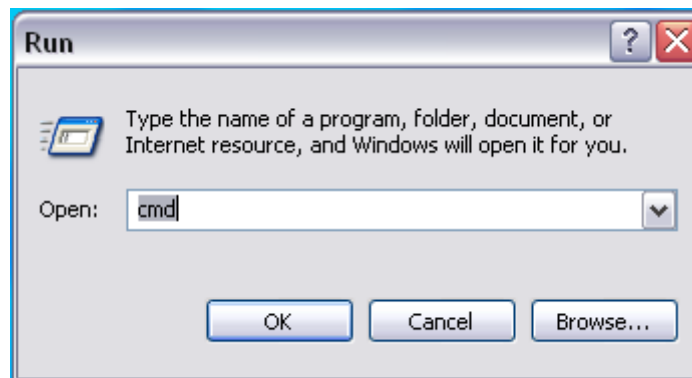

Figure 5-14. The Windows Run Dialog Box
1. Open a command window by selecting **Start, Run** (or other method, depending on the operating system in the computer). The Run window appears, as shown in Figure 5-14.